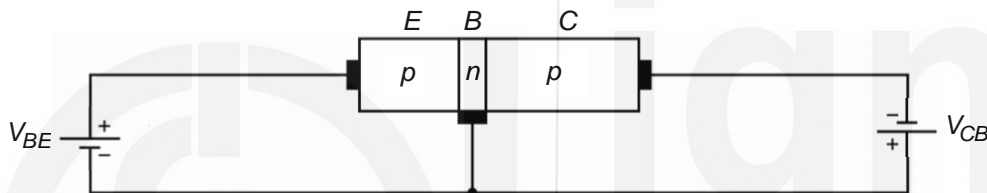

**Fig. 3.17: Structure of a  $p-n-p$  transistor.**
1. a) Fig. 3.17 shows the labelled diagram of the structure of the  $p-n-p$  transistor.